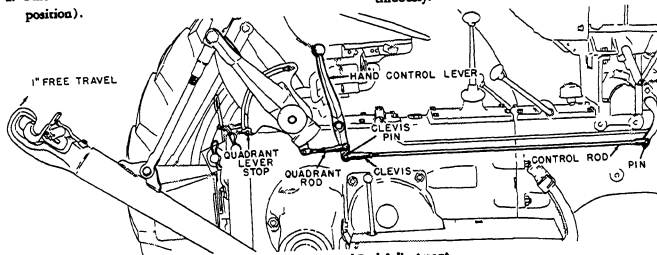

Fig. H-77 Control Rod Adjustment
- 3 Adjust the clevis at the lever end of the rod until the pins can be installed at both ends of the rod without moving either the hand control lever or the crank for the control assembly Fig. H-77.
- 5 While the draft arms are still in full raised position, grasp the Eagle claws and pull upward. There should be approximately one inch free travel at the claws before the rockshaft rocker arm strikes the stop on the housing. Fig. H-77.